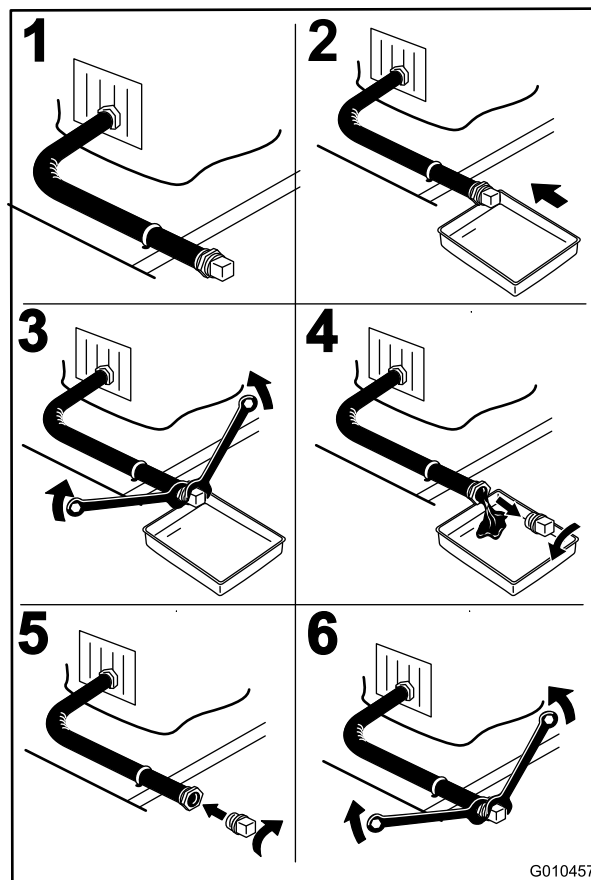

Figure 40
4. Stop the engine, remove the key, and wait for all moving parts to stop before leaving the operating position (Figure 40).